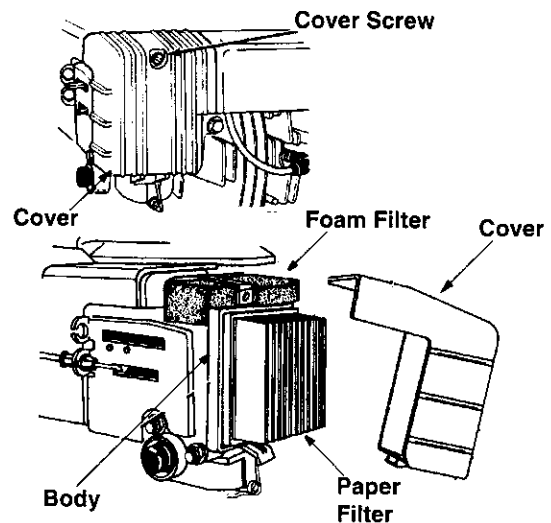

Figure 13
- **To service foam cartridge:** Loosen air cleaner cover screws. Do not remove screw from cover. Swing cover down to remove from hinge. See Figure 13.